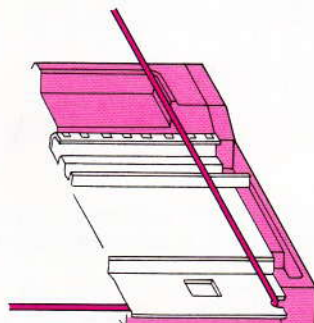

Fig. 108
- Take yarn B out of yarn-guide and leave it on the right (fig. 108),